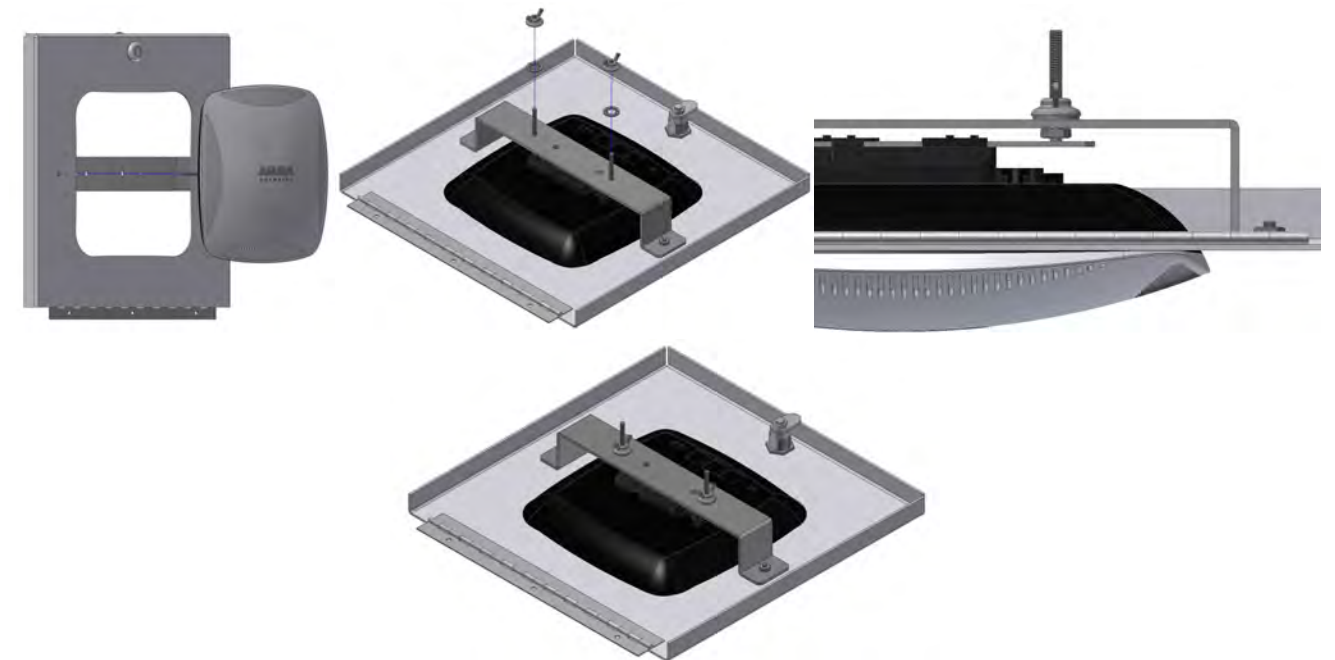

Figure 3
**Step 3** – Align the threaded studs to the two outer holes in the bracket attached to the door. Once the access point is snug in the hole, place the lock washer and wing nut onto the threaded rod. Tighten wing nuts until they are snug. With your fingers, tighten the hex nuts on the underside of the bracket then re-tighten the wing nuts until they no longer move freely (Figure 3).